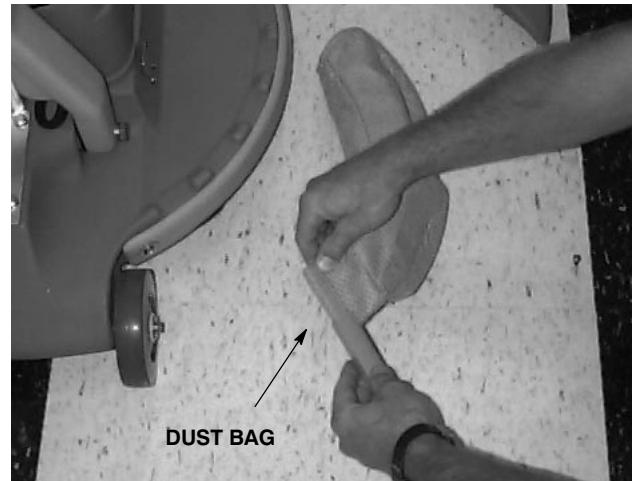

FIG. 8
2. Empty dust bag after each use. Slide bag clip off at bottom of bag to empty (Figure 8).